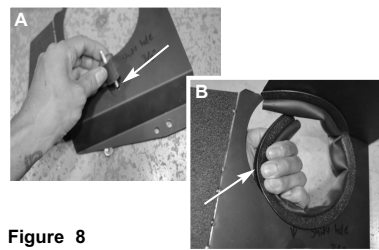
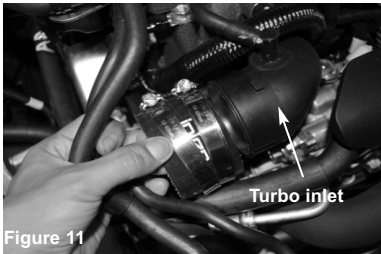

Figure 8
Figure 11
Insert the end of the pipe into the 2.875" hose on the turbo inlet from figure 11. Align the intake bracket to the vibra mount from figure 8 (A)